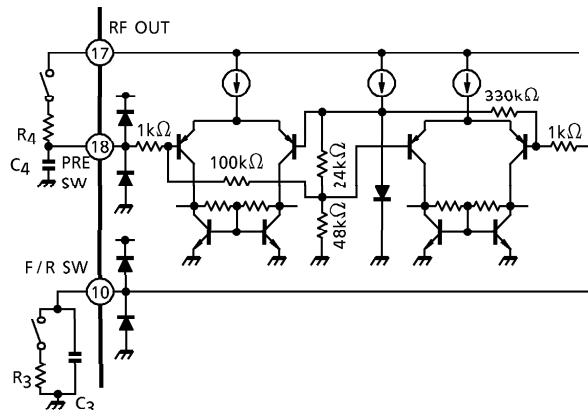

Fig.2 Internal equivalent circuit of F/R SW and PRE SW and the external circuits reducing a pop sound in switchover
(3) F/R SW
The terminal of F/R SW (pin⑩) should not be applied to higher voltage than V17 (RF OUT), because the ripple filter circuit supplies the F/R SW circuit with power source. And in reverse mode, the terminal of F/R SW should be connected with GND line through R3 (180~270kΩ), because the F/R SW circuit doesn't operate normally. It is advised to connect an external capacitor (C3 ≐ 1μF), in order to reduce a pop sound in switchover between F/R mode (see Fig.2). As for the constants, select the optimum one depending on each a set carefully.
It is advised to connect a external resistor ( $R_4 = 100 \sim 330k\Omega$ ) and capacitor ( $C_4 \doteq 1\mu F$ ), in order to reduce a pop sound in switchover between PRE SW on/off mode (see Fig.2). As for the constants, select the optimum one depending on each a set carefully.